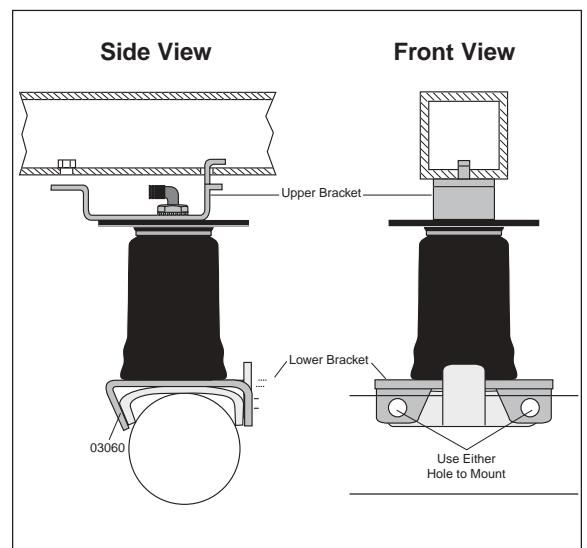

Figure 5
4. Set the lower bracket over the jounce bumper strike plate on the axle (Figure 5). Make sure the bracket sits flat on the plate.
NOTE: Only one of the two holes on the front of the bracket need to be used for mounting the bracket to the strike plate (Figure 5).